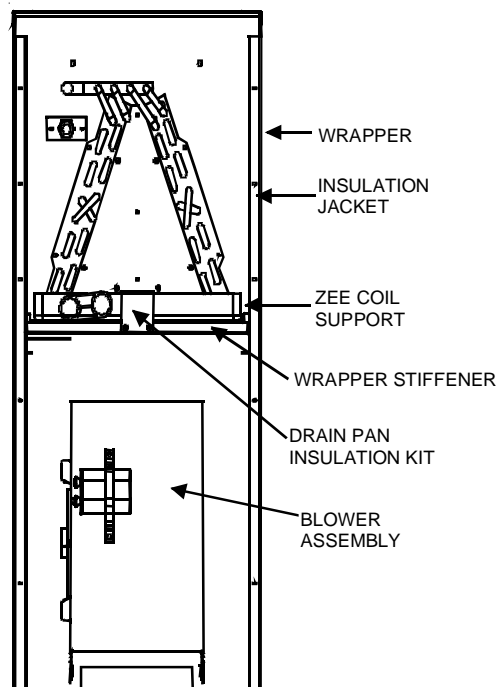

Figure 6
To complete the conversion, slide the evaporator coil into the chassis and attach the three (3) access panels. (**Figure 6**).